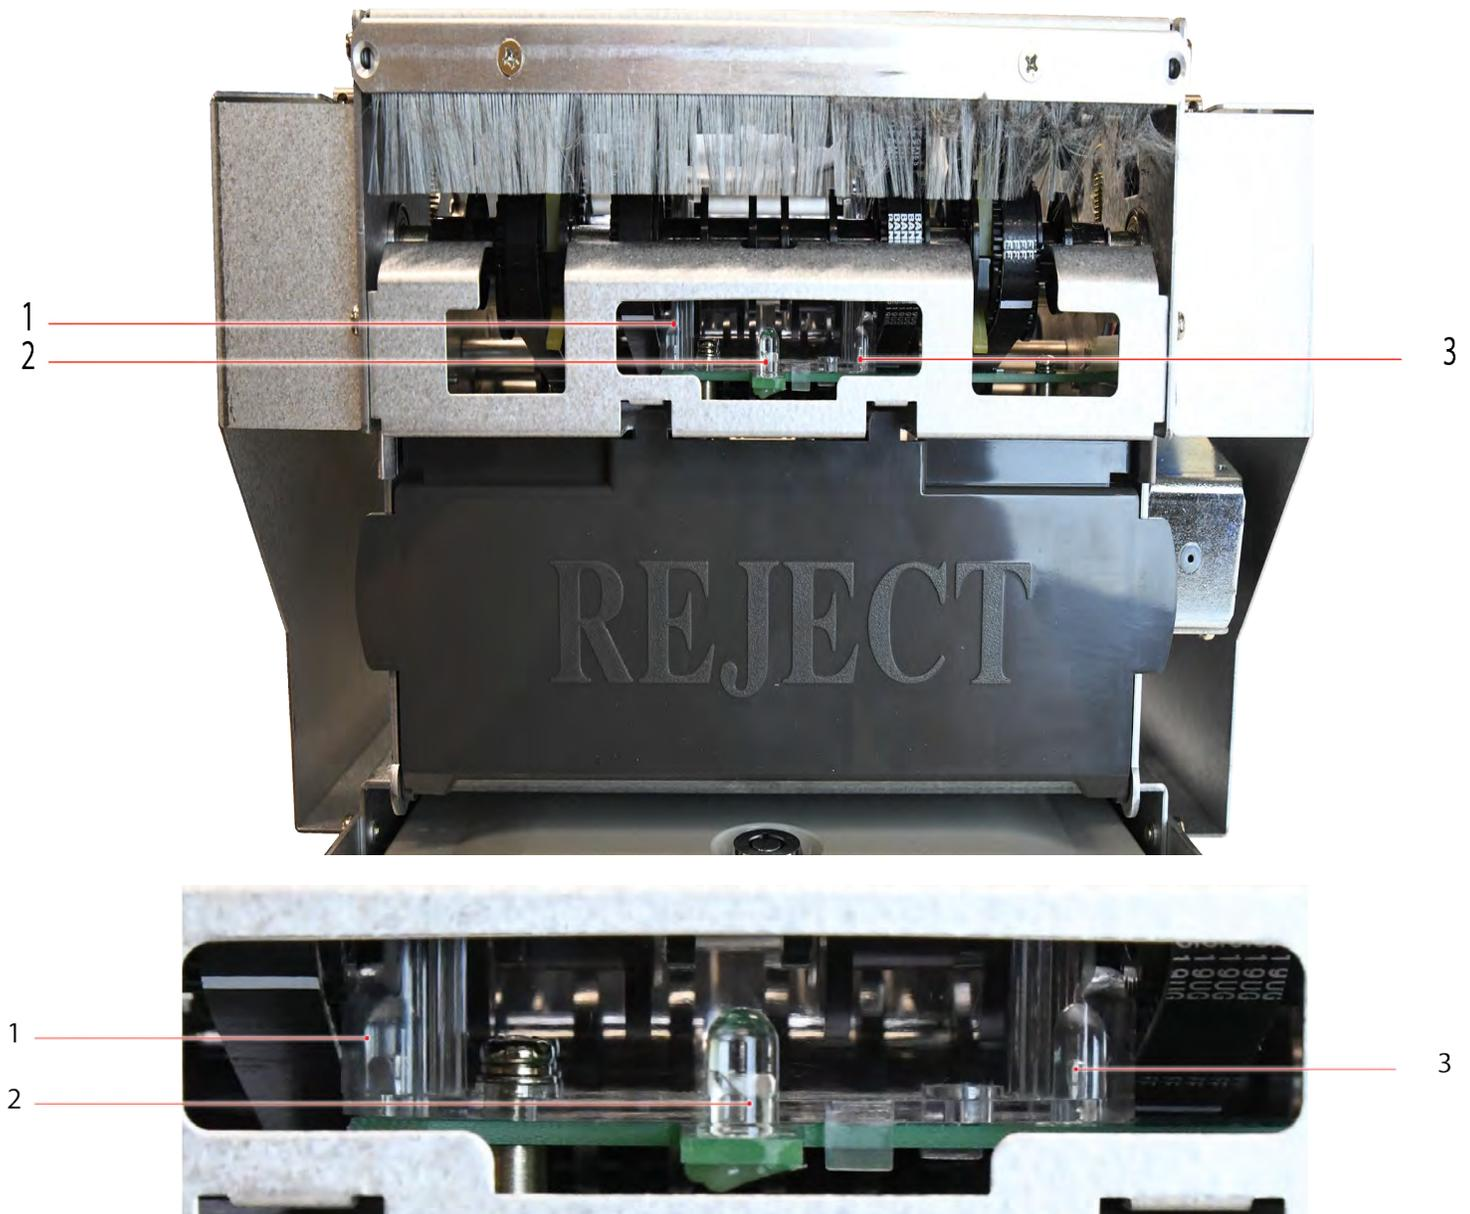

Figure 5. HCDU Sensor Located above the reject bin
15. There are 3 sensors located behind the metal bracket directly above the Reject Bin. These can be reached by blowing canned air or inserting a cotton swab through the front bracket and wiping the lenses. See Fig. 5.